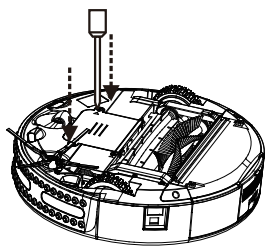

Figure 1
2. Using the screwdriver provided, remove the screws on the battery cover. (Refer to Figure 1)